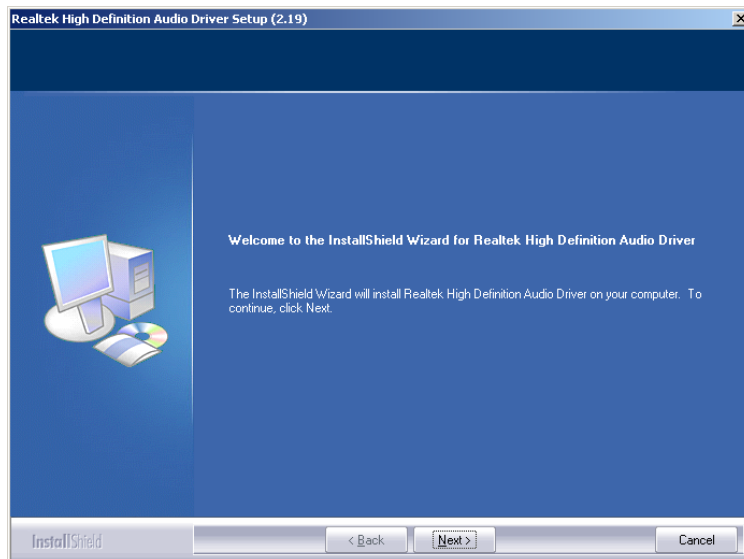

Figure 6-34: InstallShield Wizard Welcome Screen
Step 6: Once initialized, the **InstallShield Wizard** welcome screen appears (Figure 6-34).